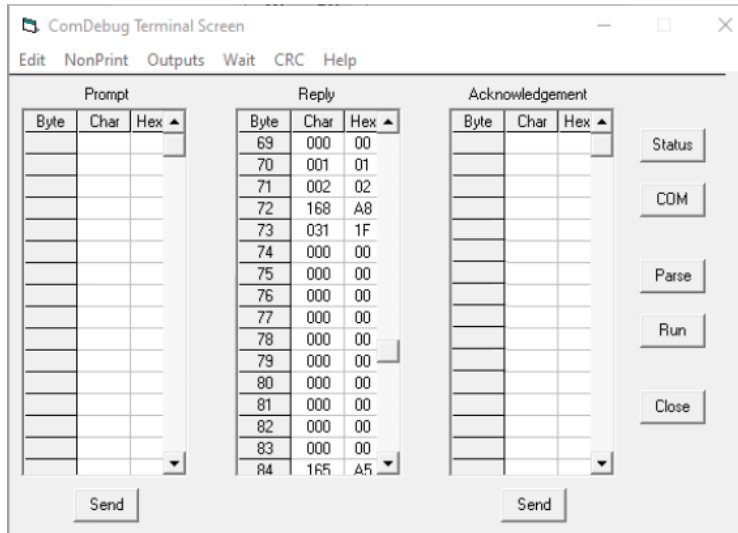

Figure 2.7. ComDebug Terminal Screen
4. The ComDebug terminal screen displays the received UART data bytes as shown in Figure 2.7.